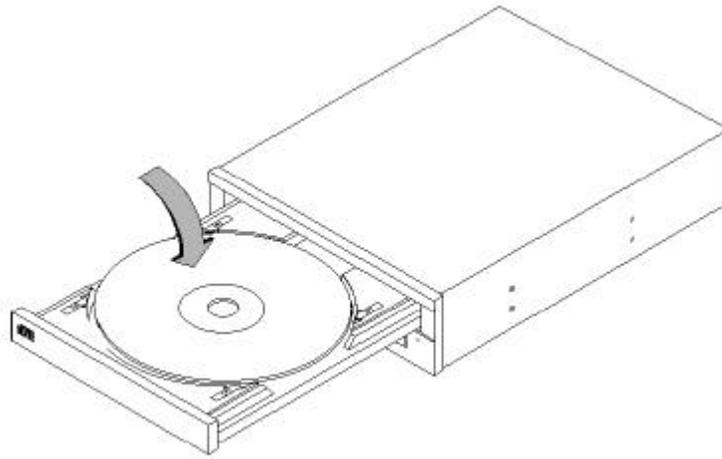

Figure 7-3
- 4 Hold the disc by the edges with the label side up and place it in the disc tray as shown in Figure 7-3.